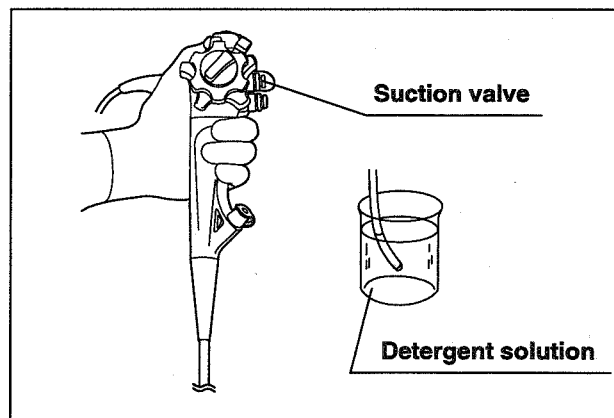

Figure 3.10
2. Immerse the distal end of the insertion tube in detergent solution. Depress the suction valve and aspirate detergent solution into the instrument channel for 30 seconds (see Figure 3.10).